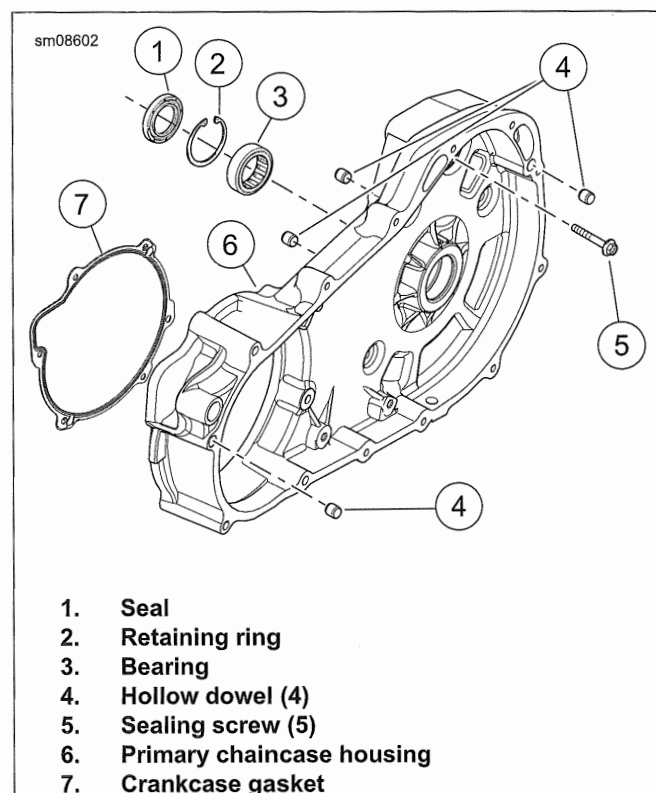

Figure 5-25. Primary Chaincase Housing
1. See Figure 5-25. Remove five sealing screws (5).
2. Remove primary chaincase housing (6).
3. Discard the crankcase gasket (7) and sealing screws.